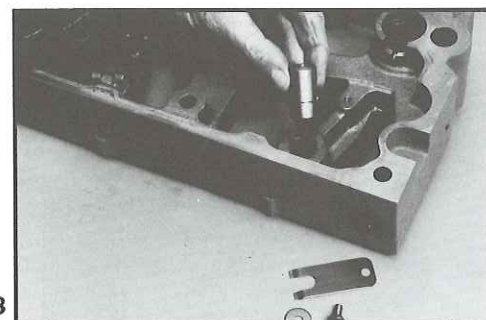

Fig. 28
2. Remove master piston from its bore (Fig. 28) using needle nose pliers to initially pull the piston out, if necessary. If binding occurs, check for burrs or contaminants in lube oil.